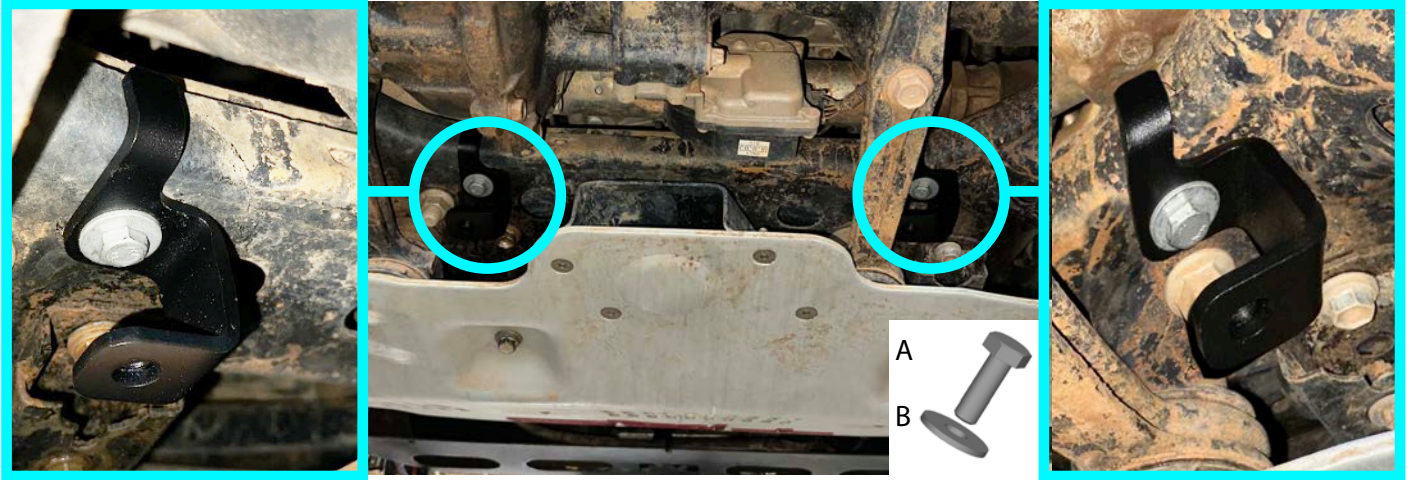

Fig.1
1. Install the mounting brackets (item 2) on the vehicle using bolts M8x30 (item A) and flat washers 8 (item B) (fig.1).